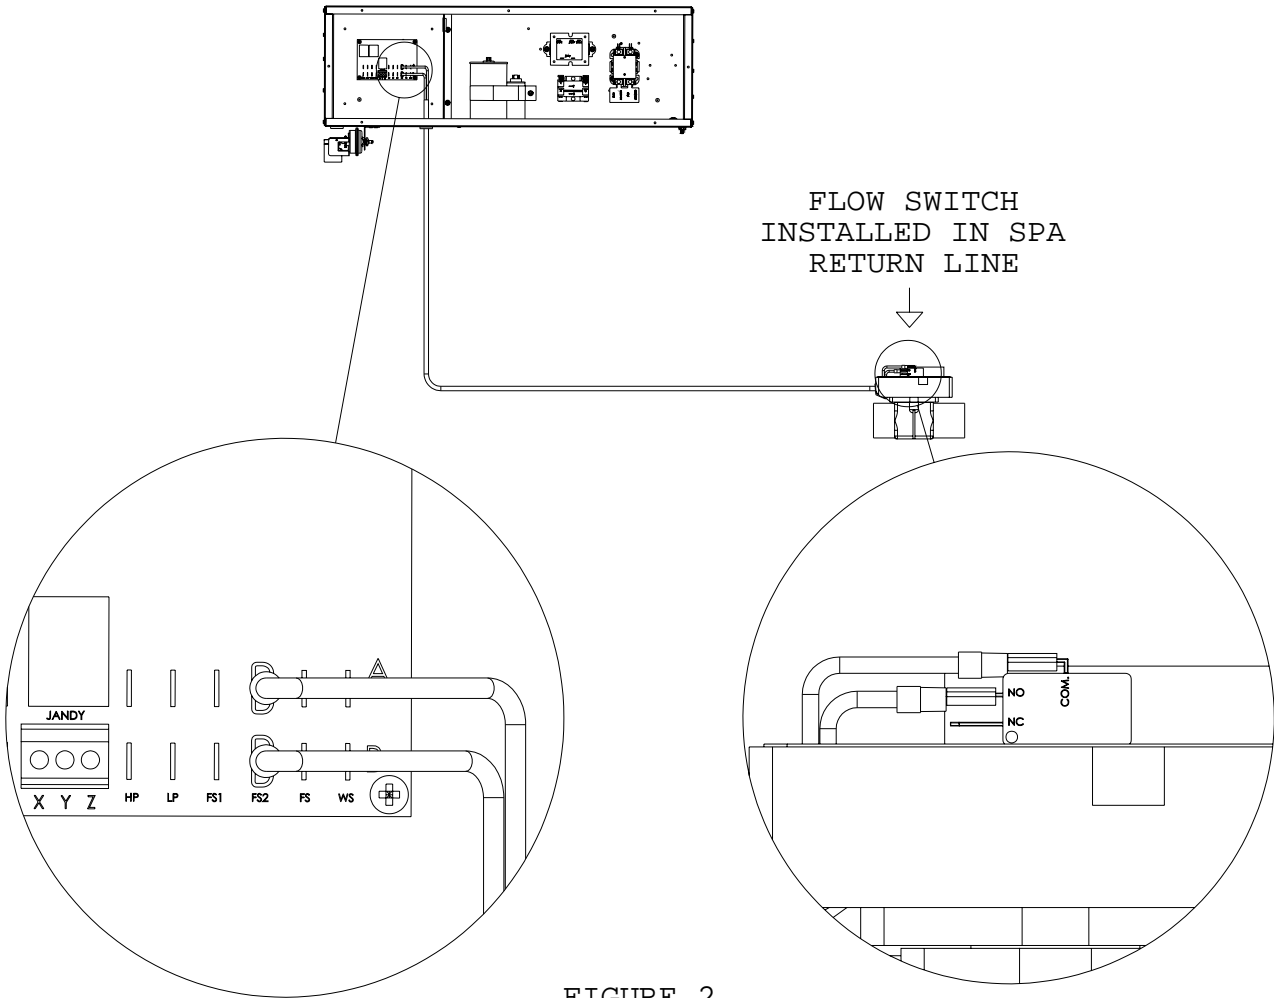

FIGURE 2
4. Locate the Microprocessor Power Board inside the electric box. (see figure2)
5. Connect the cable with female quick disconnects already attached to the terminals marked **FS2 A and B** on the Microprocessor Power Board. (see figure 2)
7. Remove the cover from the flow switch. Disconnect the wire from the **NC** (normally closed) terminal, and connect to the **NO** (normally open) terminal. (see figure 2) Replace the cover on the flow switch.